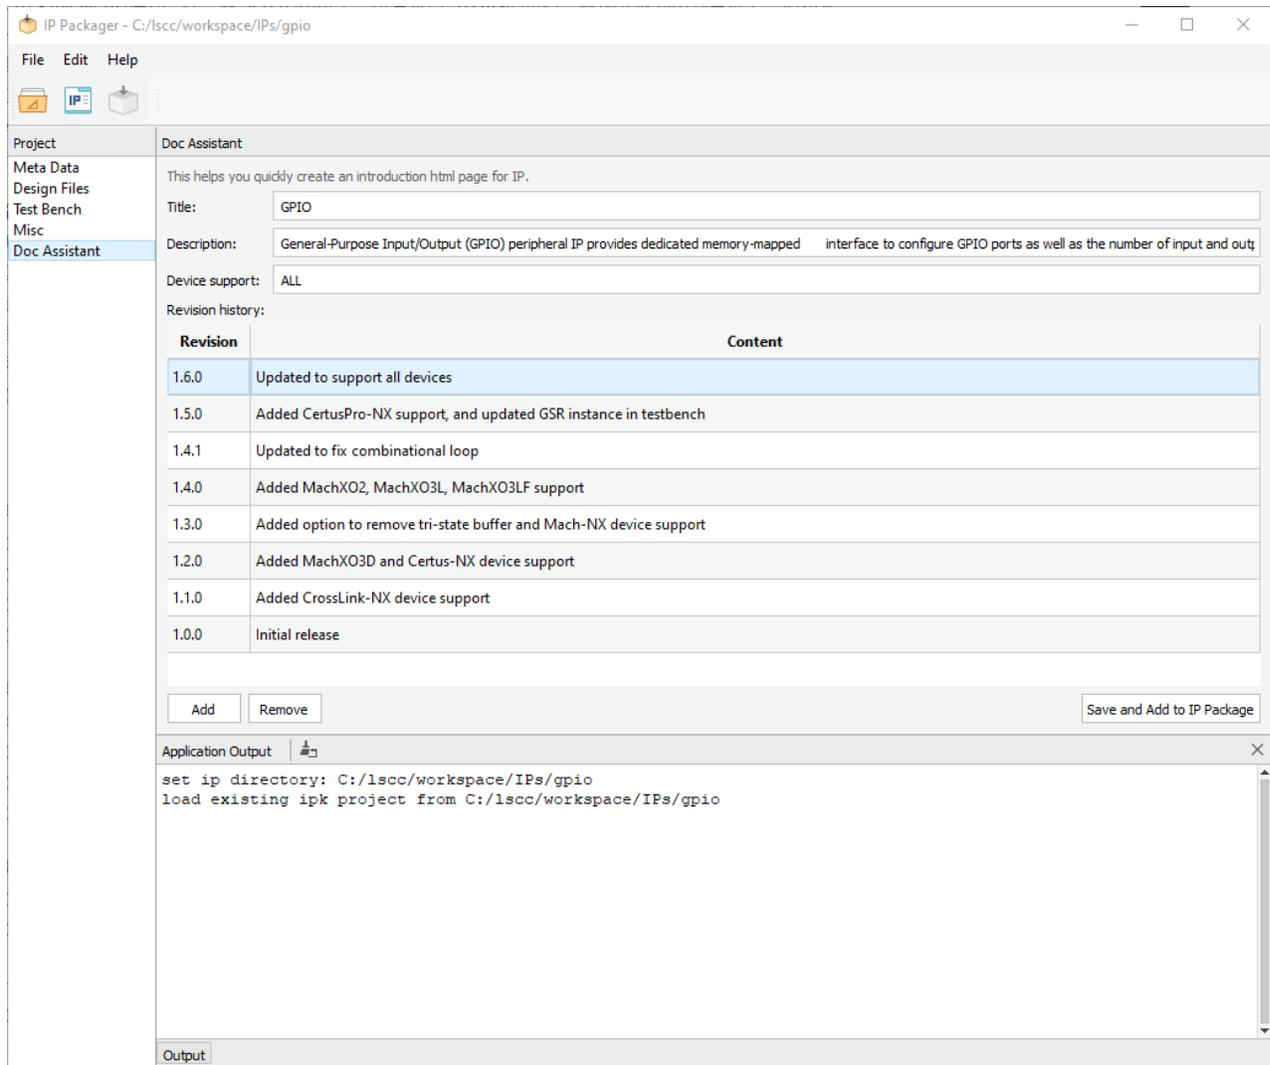

Figure 3.29. Configure Doc Assistant
- Double-click and enter a revision in **Revision** field. Double-click and enter revision contents in **Content** field. Refer to Figure 3.29 as an example. Click the **Add** button. A new blank row is added to the Revision History area. You can add desired revision and contents accordingly. Select the revision you want to delete, and click the **Remove** button to remove a Revision.